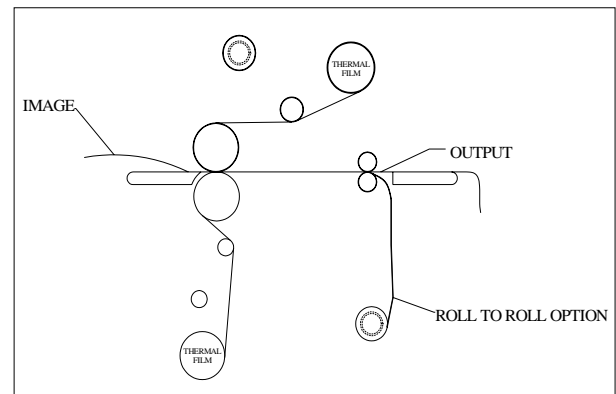

Figure 35
1. Load the laminator as illustrated in Fig. 35 Poly-in film is used for illustration purpose.